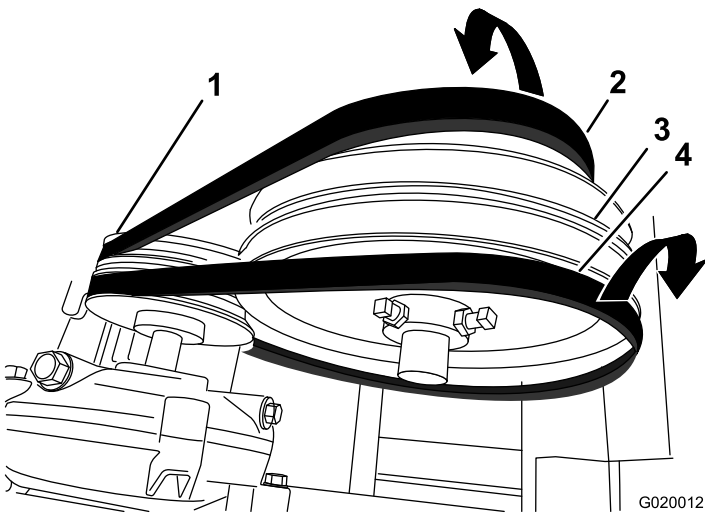

Figure 73
4. Slip the forward belt forward and off the idler pulley (Figure 73).
5. Slip the rear belt rearward and off the idler pulley (Figure 73).